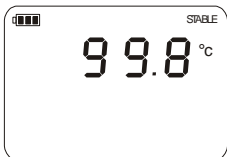

Figure 11: Unit goes to measurement mode
- When the **cal** and **hold** keys are released, the unit will go to measurement mode (Figure 11).